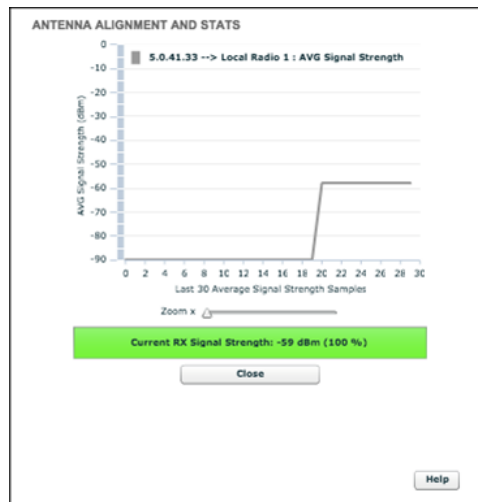

Figure 28. Antenna alignment and stats tool
- The **ANTENNA ALIGNMENT AND STATS** tool will be shown (Figure 28 (page 81)).